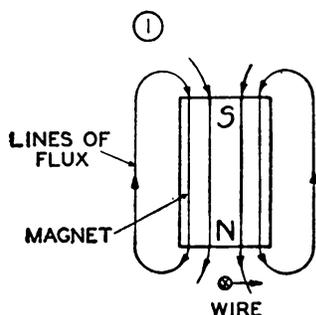
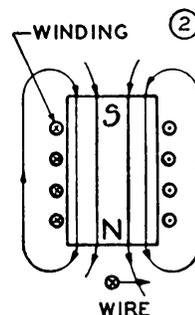

FIGURE 4. Generator theory—permanent magnet.
FIGURE 5. Generator theory—electromagnet.
a. The fundamental principle of operation of any generator, either a-c or d-c, is indicated in figures 4 and 5. In figure 4, a permanent bar magnet is shown, with lines of flux leaving the north pole and entering the south pole. If a wire is moved past the pole of the magnet at right angles to the lines of flux, a voltage will be induced in the wire.
- (1) Strength of magnet.
- (2) Length of wire.
- (3) Speed of movement of wire.
d. In practice, an electromagnet (fig. 5) is used rather than a permanent magnet because a permanent magnet tends to lose its strength over a period of time. Also, the strength of an electromagnet can be readily controlled by the number of turns of wire wound on it and by the amount of current in amperes supplied through this wire.
e. In an actual generator, such as that used in Power Unit PE-75-(*), the field poles serve as electromagnets. The armature winding acts the same as the wire shown moving past the end of the magnet in figures 4 and 5. This movement is said to "cut the lines of flux" of the magnet. This induces an alternating voltage in the armature winding, which is con-